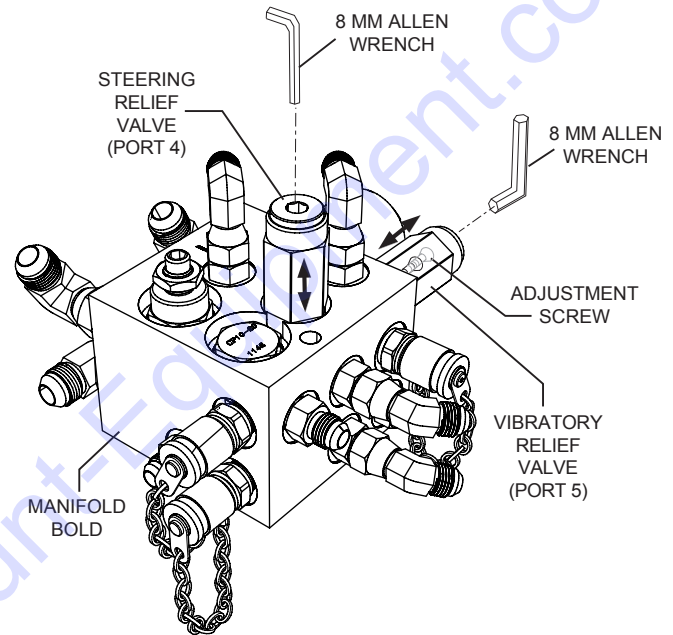

Figure 32. Steering and Vibration Relief Valves
1. Insert an 8 mm allen wrench into steering relief port 5 (Figure 32) on the manifold block.